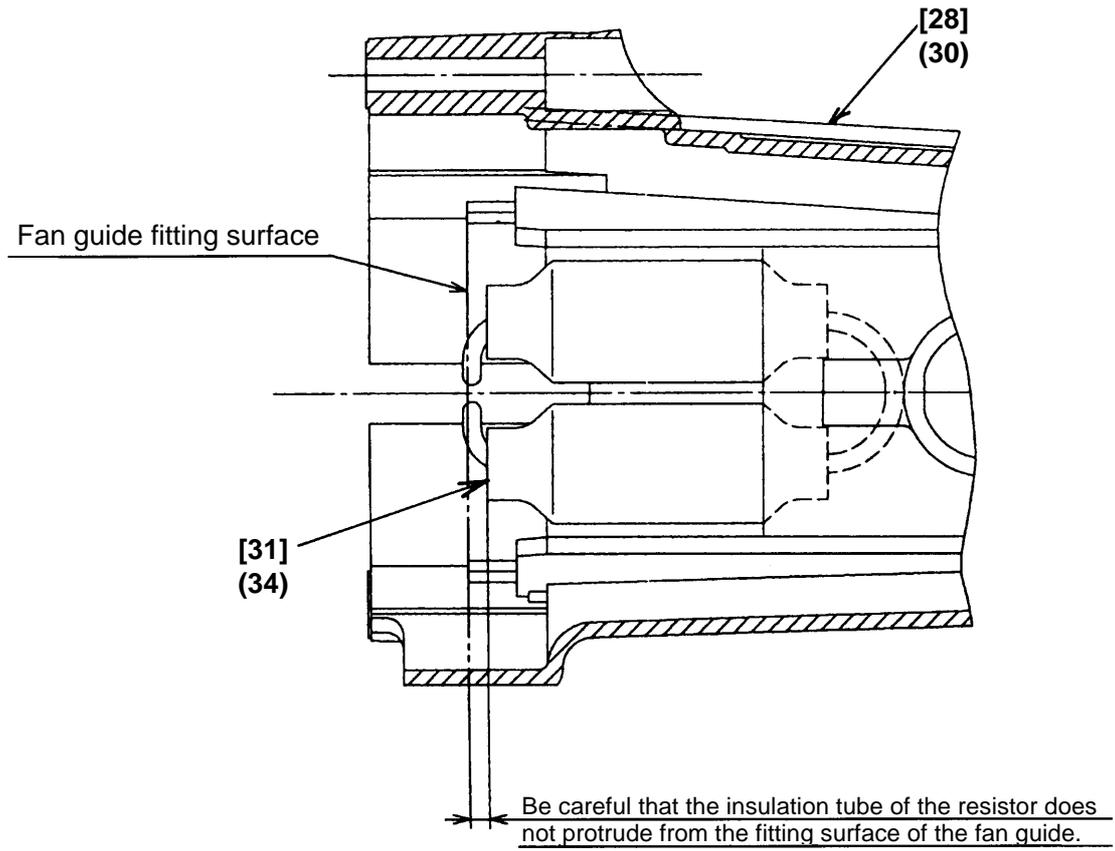

Fig. 14
C. Connection and Place for the Resistor [31] (34)
Connect the short leadwires of the Resistor [31] (34) to the other leadwires with the connector and connect the long leadwire to the Switch (B) [29] (31) as shown in Figs. 11 and 12. Place the Resistor between the Stator Ass'y [34] (37) and the Housing Ass'y [28] (30) bending its intermediate leadwire so that the leadwire faces to the Gear Cover Ass'y [3] side as shown in Fig. 14. Be careful that the insulation tube of the Resistor does not protrude from the fitting surface of the Fan Guide [35] (38).